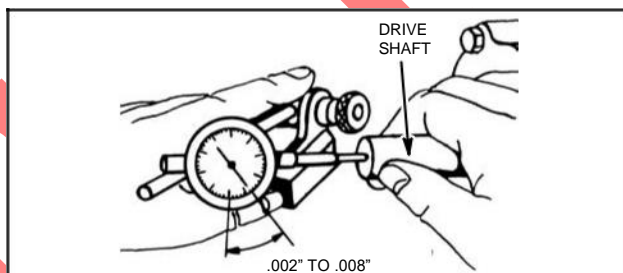

Fig. 123
8. Check end play of drive shaft with indicator as shown in Fig. 123. End play should be .002"-.008", Table No. 9.